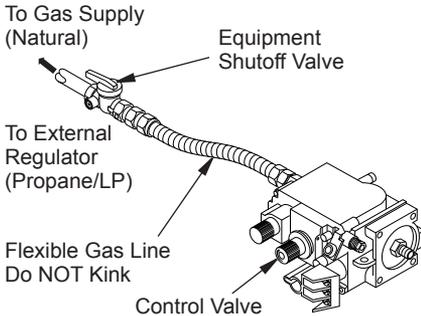

Figure 52 - Connecting Flexible Gas Line to Millivolt Valve
3. Attach flexible gas line from gas supply to control valve (see Figure 52, page 29).